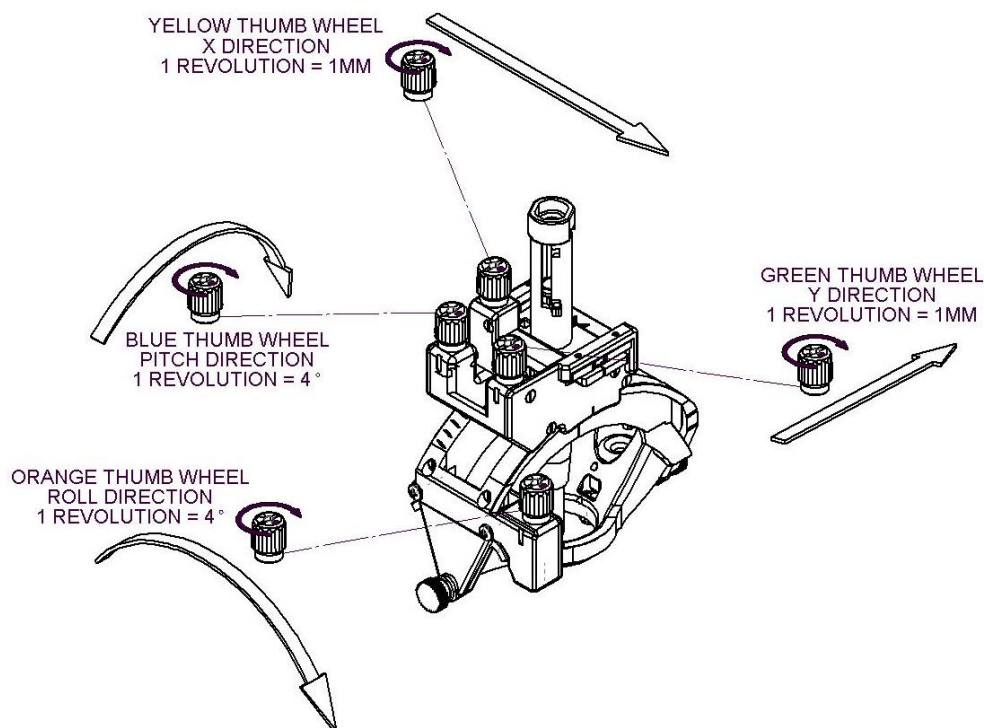

Figure 12: Tower Movements
3. The thumb wheels are color coded: Pitch is Blue, Roll is Orange, X is Yellow, and Y is Green. **See Figure 12.**
10. Insert the Stylet into the Peel-Away Sheath until the end protrudes approximately one (1) to five (5) millimeters. A slight resistance should be felt.
14. The thumb wheels are color coded: Pitch is Blue, Roll is Orange, X is Yellow, and Y is Green. **See Figure 12.**